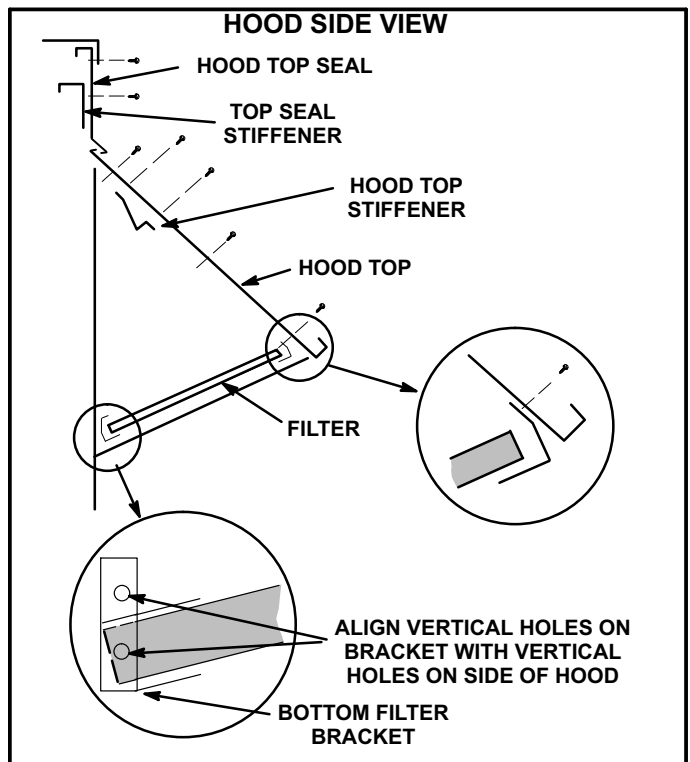

FIGURE 3
The outdoor air hood is packaged separately but attached to the damper assembly crate. Use #10 self drilling screws to install hood unless noted otherwise. Refer to figures 3, 4, 5, 6, and 7.
- 2- Secure top seal stiffener to back side of hood top seal. See figures 3 and 4.
- 5- Secure hood top stiffener to unpainted side of the hood top with ten screws. See figures 3 and 5.
- 6- Position the hood top edge V-channel under the corresponding V-channel on the hood top seal and slide into place from right to left. See figure 3 and 4.
- 18- Insert the third filter into the bottom filter bracket. Position the top filter bracket (short) as shown in figures 3 and 5. Secure the bracket to the hood top with screws.
- 14- Align the two holes on the left hood side with the two holes in the bottom filter bracket. See figures 3 and 6. Secure with screws.
- 15- Secure bottom filter bracket to right hood side in the same manner. See figures 3 and 7.
- 17- Secure the top filter bracket (long) to the hood top. See figures 3 and 5. Slide two filters into place.